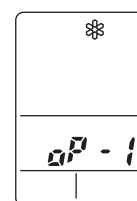

Fig. 8b
- After a few seconds, “*” appears and “oP-1” blinks in the remote controller display area. (Fig. 8b)